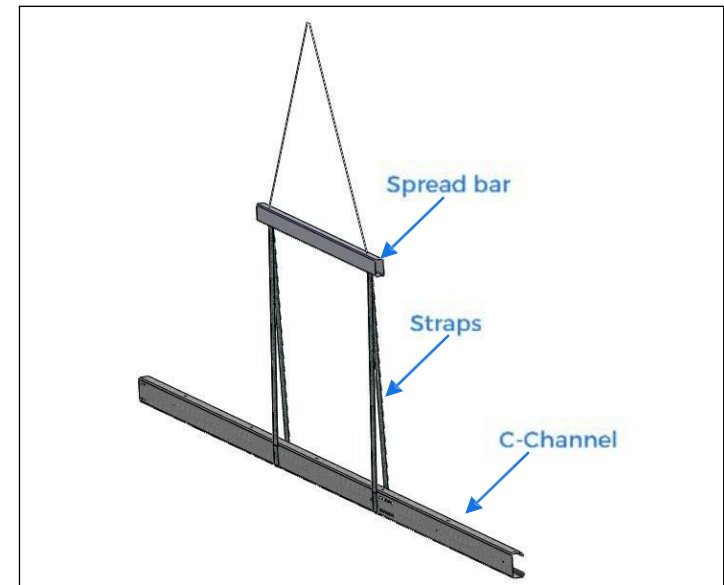

Figure 3: Proper way for lifting beams
- Lift shipped bundles from the center of mass (i.e. Channels to be stored, lifted and handled on the flange not the web, see figure 3).